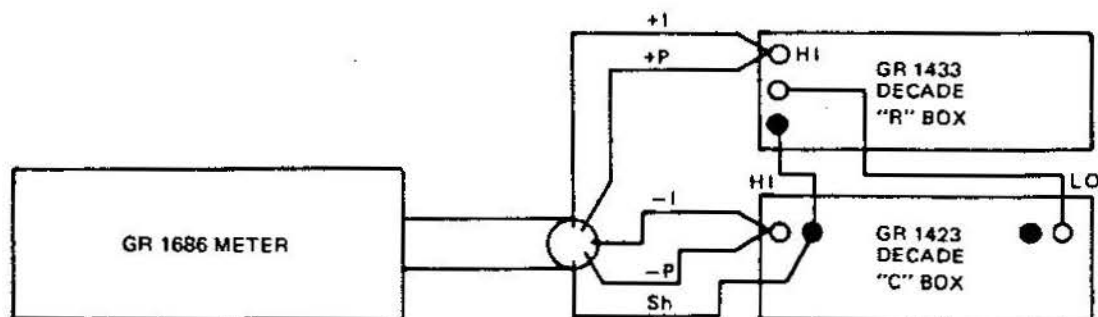

Figure 5-7. Test setup for D-measurement checks and adjustments. Both "R" and "C" are usually decade boxes. Use 1686-0291 and 1686-9602 cables (supplied).
5.9.6 D-Measurement Checks and Adjustments (1 kHz). Figure 5-7.